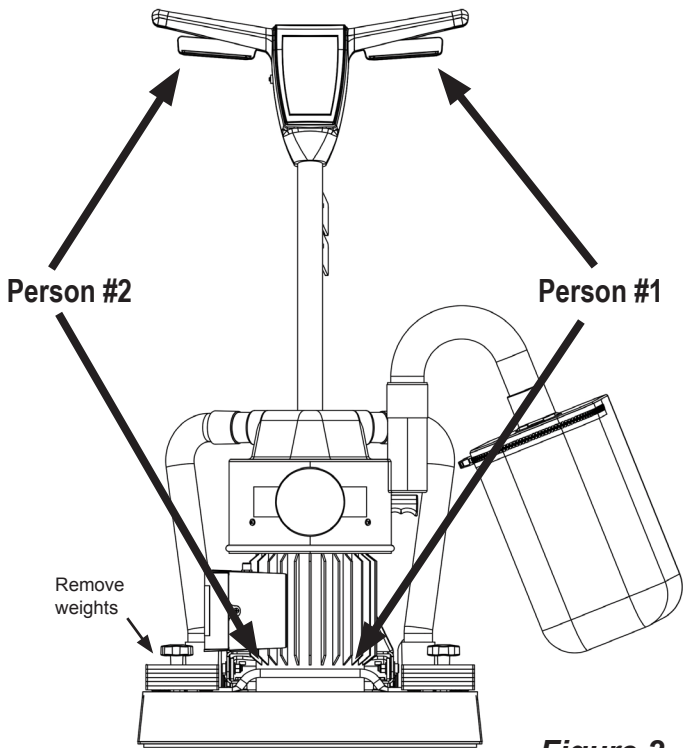

Figure 2
4. Grasp the machine at the lift points (see *Figure 2*) and place in cargo area.